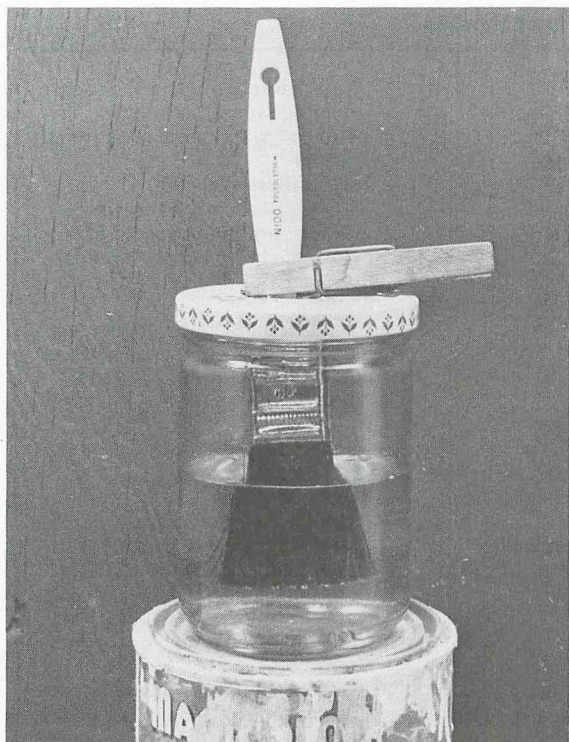

Fig. 12-2. Set up for temporary brush storage.
□ Pour appropriate solvent into a glass jar with a metal screw top. Punch a hole for later inserting the brush (Fig. 12-2). Clip a spring